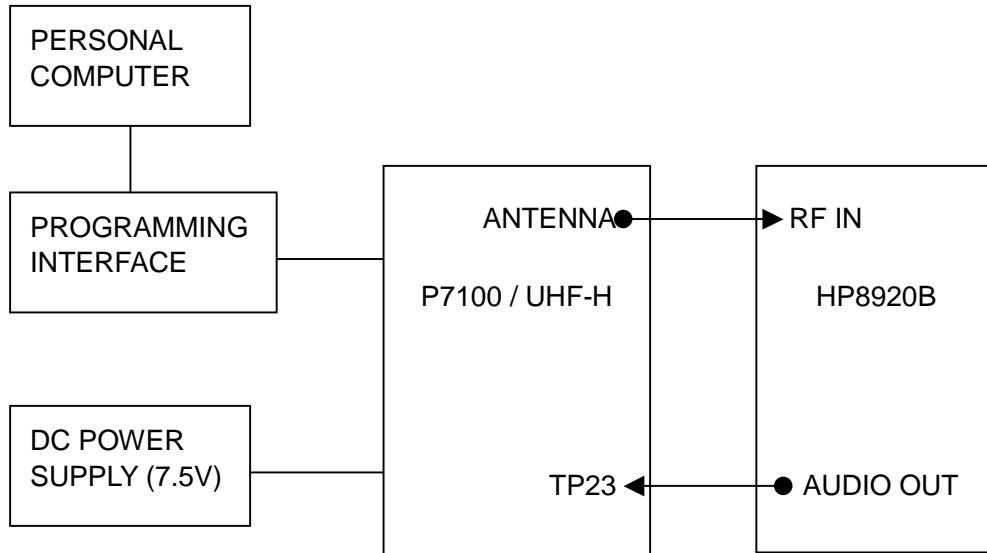

Figure 1: Equipment Setup
- 1) Connect the equipment as Figure 1.